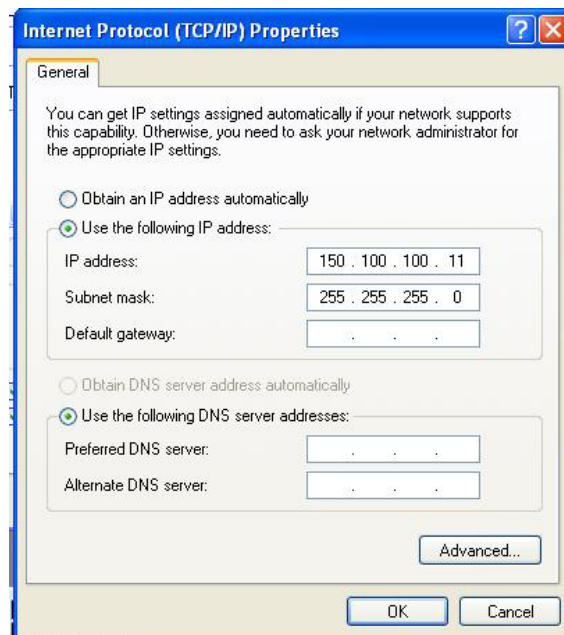

Figure 3-11, Internet Protocol (TCP/IP) Properties
13. When the Internet Protocol (TCP/IP) Properties screen (Figure 3-11) appears, select the “Use the following IP address” option to activate those items.